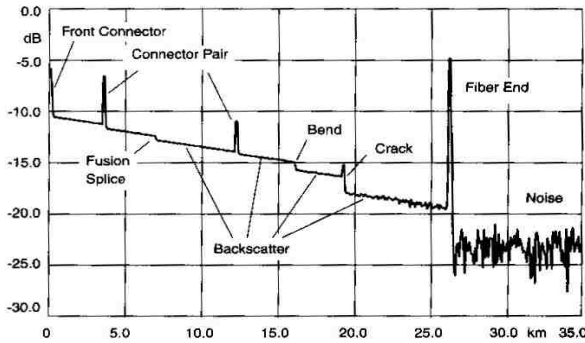

Figure 3.4 – Example of an OTDR signal. Evolution of the local power along the fiber: $\frac{P}{P_0}$ (dB) vs D (km).
- P3** On the previous OTDR signal curve (Figure 3.4), verify that the attenuation factor is approximately 0, 2dB/km.